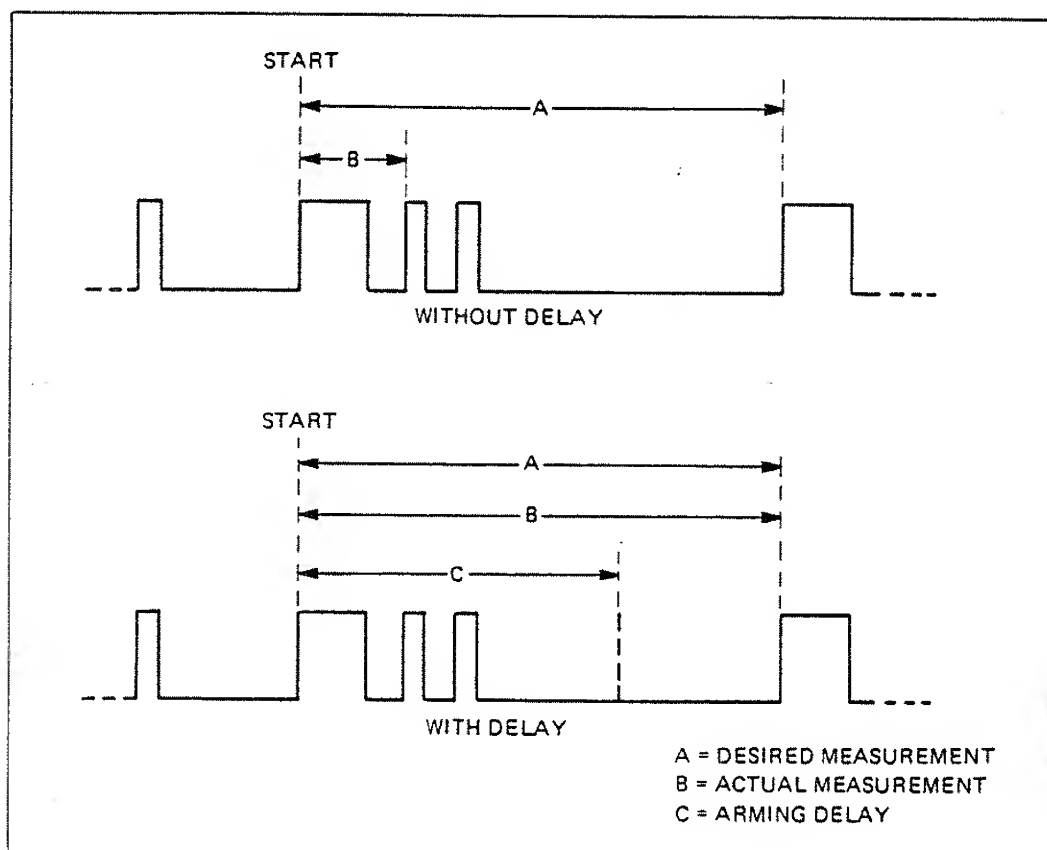

Figure 3.2 - Use of Stop Arm Delay
3.4.5.2 The stop arm delay can be useful in preventing premature triggering of the stop circuit by spurious signals (e.g., those resulting from relay contact bounce). Figure 3.2 below shows the principle of the stop arm delay.